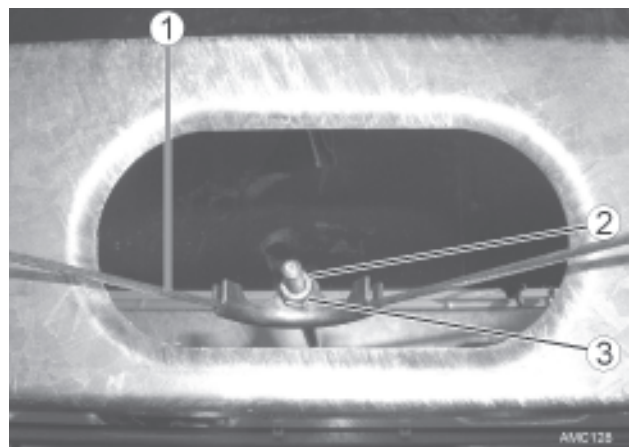

Fig. 48
15. Slacken handbrake Bowden cable (Fig 48-1) by loosening the hexagon nuts (Fig 48 - 2 and 3).